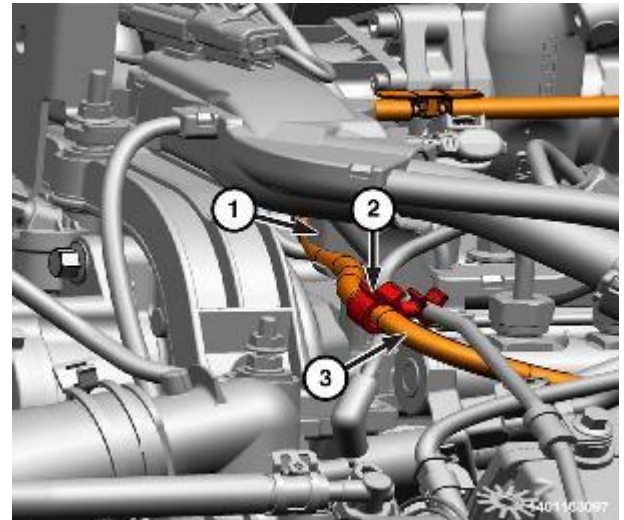

Figure 126 – Injector Return Line Retainers
- 63. Detach the fuel return line retainers (1 and 2) (Figure 126).
- 64. Remove the fuel injector return line assembly (3) (Figure 126).